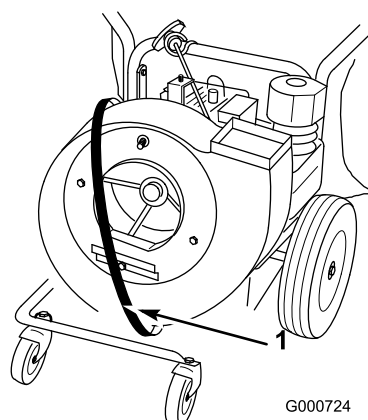

Figure 35
10. Route the new belt around the blower housing (Figure 35).